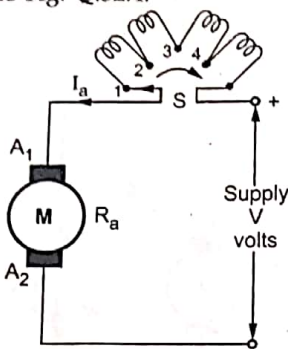

Fig. Q.52.4 Tapped field
- The field winding is provided with the taps as shown in the Fig. Q.52.4.